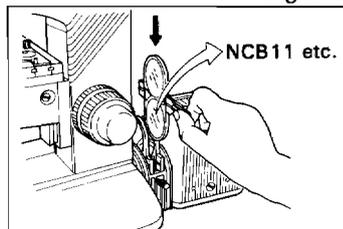

Fig.3-3
- 3) Put the NCB 11 filter (or necessary filter) into the optical path (Fig. 3-3).